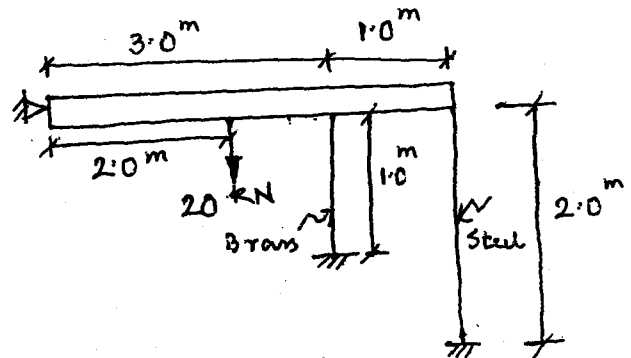

Figure Q.7
- Q.7. In the system shown in Figure Q.7, find the stresses in the brass and steel bars. The brass bar has an area of 600 mm^2 and the steel bar has an area of 400 mm^2 . $E_S = 200 \text{ GPa}$, $E_b = 90 \text{ GPa}$.